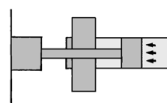

Fig. 1 $\eta = 0.7$ or more
- 1) Using the cylinder for stationary operation: load ratio $\gamma = 0.7$ (Fig. 1)